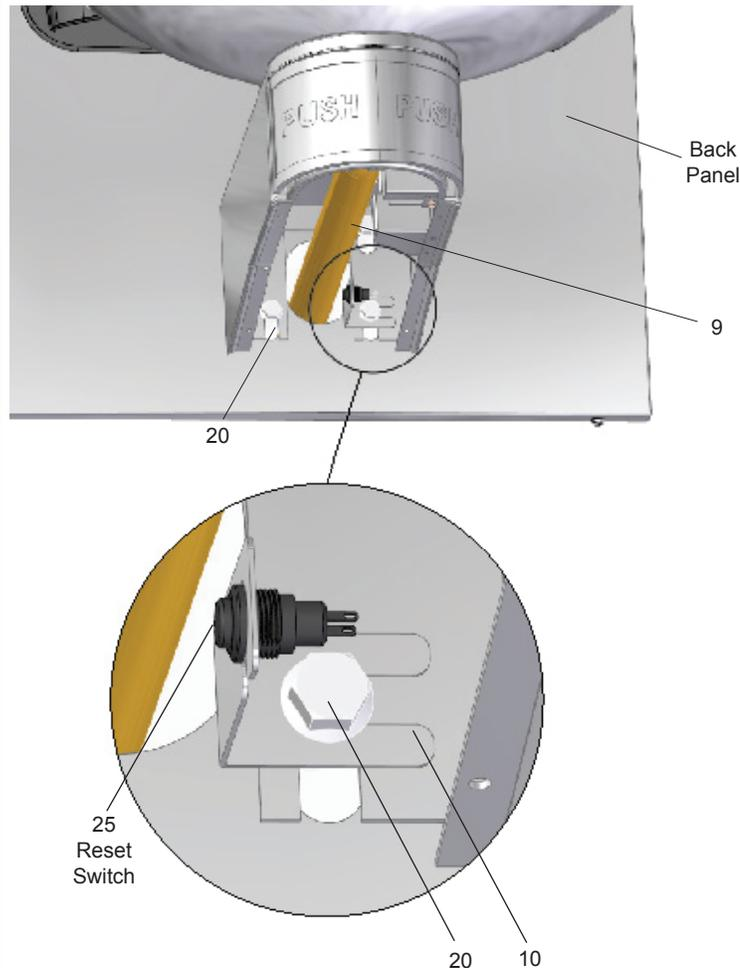

Figure 5 - Fountain Installation
7. **Install** reset switch for bottle filler (Fig. 5). Snap the switch into position after locating wires through slot. Wrap up the excess cord.
8. **Install** fountains with (8) 5/16-18 HHMS & (8) 5/16-18 nuts (provided) (Fig. 5). Connect the 1/4" water lines from each fountain to the remaining openings on the tee at the remote chiller (cut lines to fit as needed).
- 1) To access the program button, remove the bottom cover on lower fountain arm (Fig. 5) by removing the bottom cover screws. Reset button is located on mounting bracket.